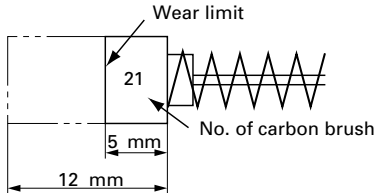

Fig. 16
4. Inspecting the carbon brushes (Fig. 16)